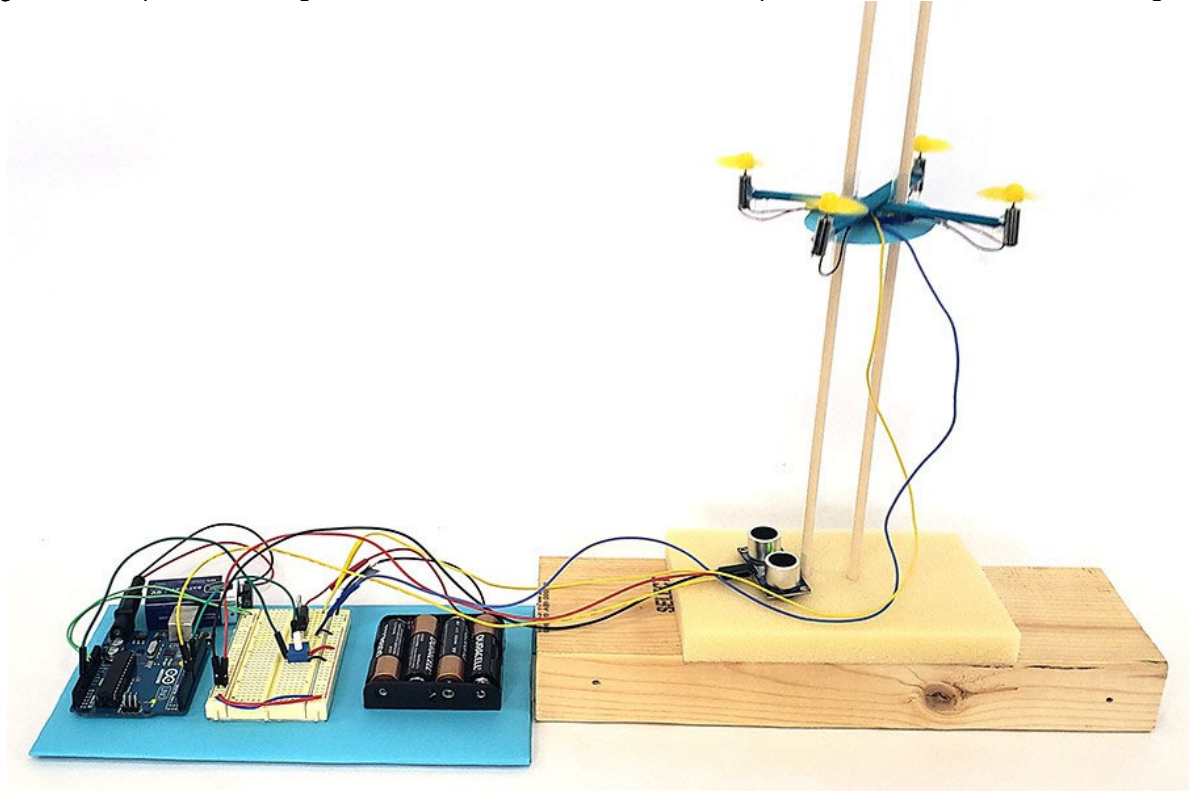

Figure 7. Experimental setup, with the drone on guide poles and ultrasonic sensor placed under the drone facing upward.
- Place the ultrasonic sensor directly under the drone, facing up (Figure 7).